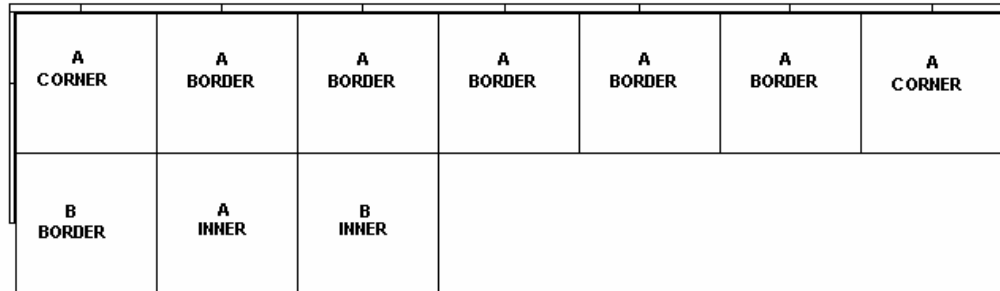

Figure 15
16. Next to the RIGHT of "A INNER" and BOTTOM of "A BORDER TOP" lock in a "B INNER" NOTE: "B INNER" ONLY LOCKS TO BOTTOM OF "A BORDER" ON TOP. (Figure 15)